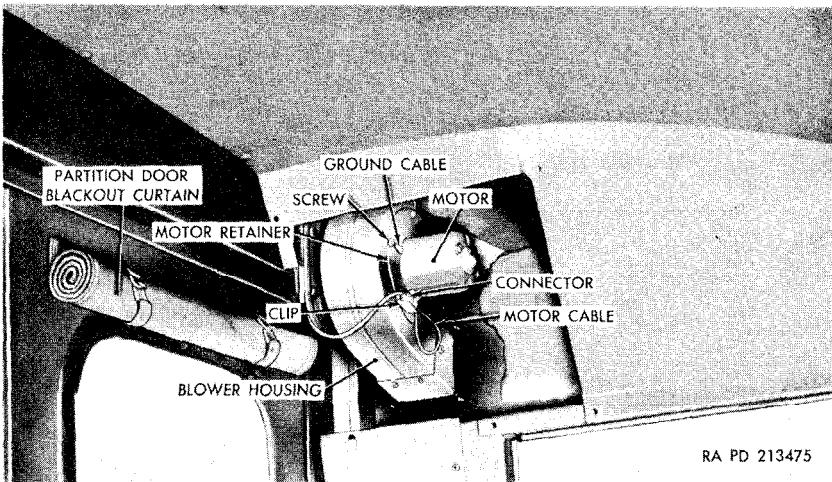

Figure 225. Removal or installation of ventilator blower motor.
b. Remove Blower Motor (figs. 225 and 226).
- (1) Remove the five lockwasher screws that secure the blower inspection cover in the driver's compartment, and remove the cover.
- (2) Disengage the motor cable connector from the connector clip and disconnect the cable at the connector.
c. Install Blower Motor (figs. 225 and 226). Be sure to install the correct motor for the blower being serviced (*a* above).
- (1) Position the motor gasket and the motor retainer over the shaft end of the motor. Install a motor grommet, No. 10 plain washer, No. 10 lockwasher, and No. 10-32NF nut, on each motor stud and tighten the two nuts.
- (2) Place the blower wheel on the motor shaft with open end of the wheel away from the motor.